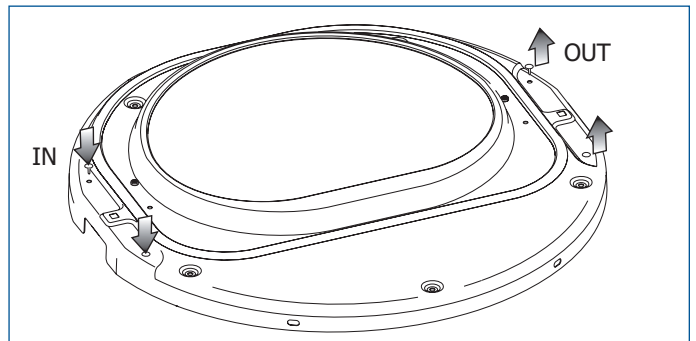

Figure 2-24.
5. Carefully remove the 2 round plugs from the inner door and move them to the opposite holes and reinstall. (See Figure 2-24)